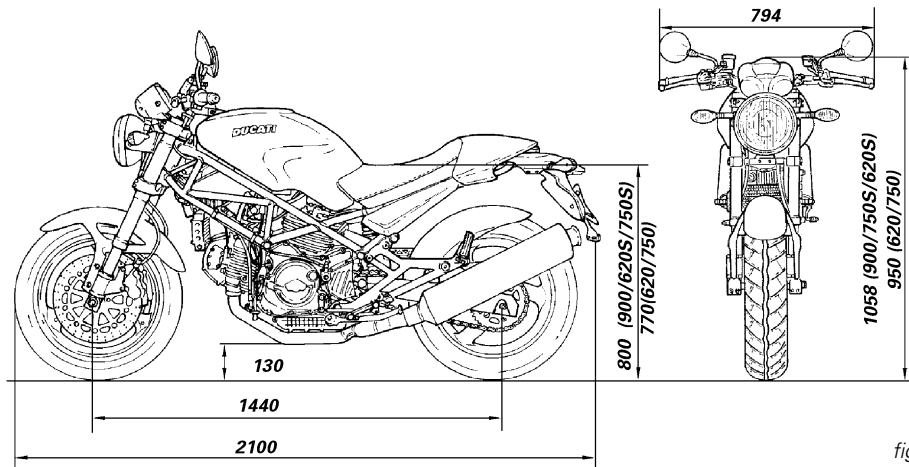

fig. 42
**Overall dimensions** (mm) (fig. 42)